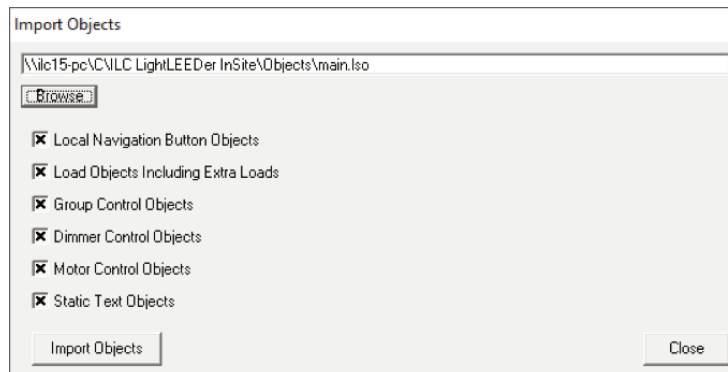

Figure 4.7 Import Objects
1. From the InSite screen that you want to copy objects into, select from the menu bar "Tools", and then "Import Objects". Use the navigation option to browse to the InSite screen to import objects from an existing screen as shown in figure 4.7.